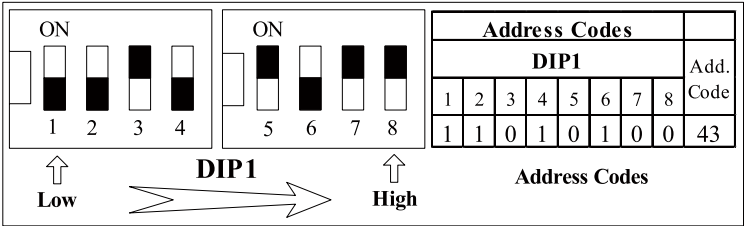

Fig.6 How to Set the Address 43
- ② . See the Fig.6 for how to set the address 43